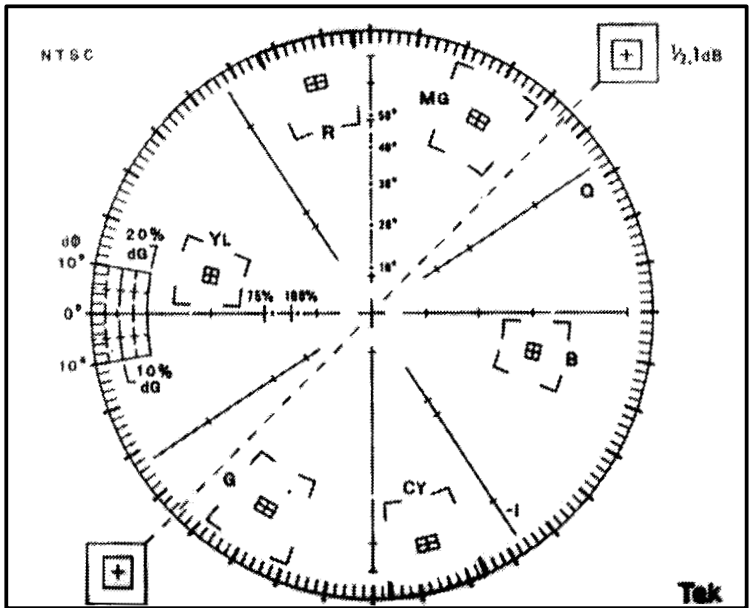

Figure 3-3: 1780R Vector Graticule
**Basic Vector Graticule Markings.** The NTSC Vector graticule is shown in Figure 3-3. The polar display permits measurements of hue in terms of the relative phase of the chrominance signal with respect to the color burst. Relative amplitude of chrominance to burst is expressed in terms of the displacement from center (radial dimension of amplitude) towards the color point which corresponds to 75% (or 100%) amplitude for the color being measured.